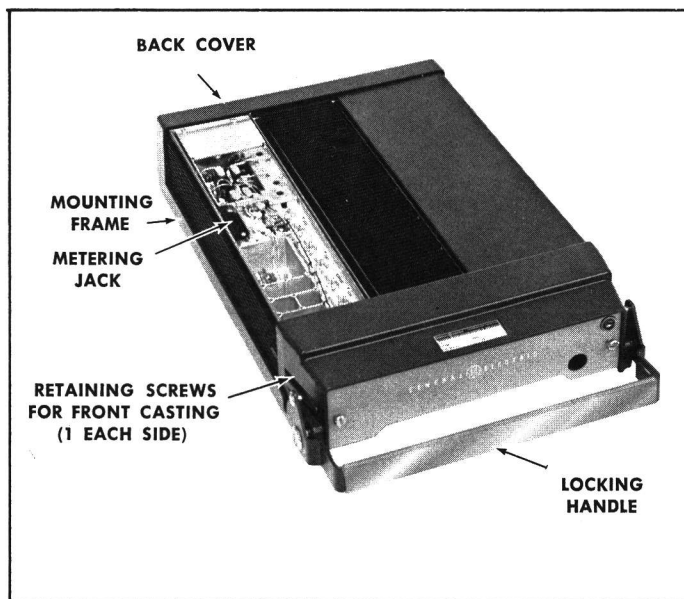

Figure 3 - Removing Top Cover
1. Pull locking handle down and pull radio about one inch out of mounting frame. (see Figure 3).
1. Loosen the two Phillips-head retaining screws in front casting (see Figure 3), and pull casting away from system frame.